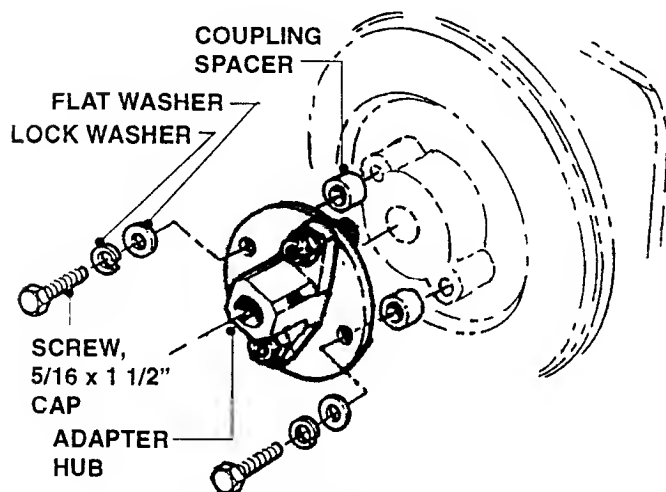

FIGURE 4.10
4. Check other Fuel System Components frequently and replace any parts that are leaking or showing worn spots or cracks (refer to Figure 4.10 on Page 4.5).
- B. Remove the two (2) Hex Hd. Cap Screws, Lock Washers and Flat Washers which secure the Flexible Disc to the Engine Driveshaft.
- C. Slide Adapter Hub/Flexible Disc Assembly away from Engine. Place Coupling Spacers and Washers aside for reassembly. Refer to Figure 4.10.